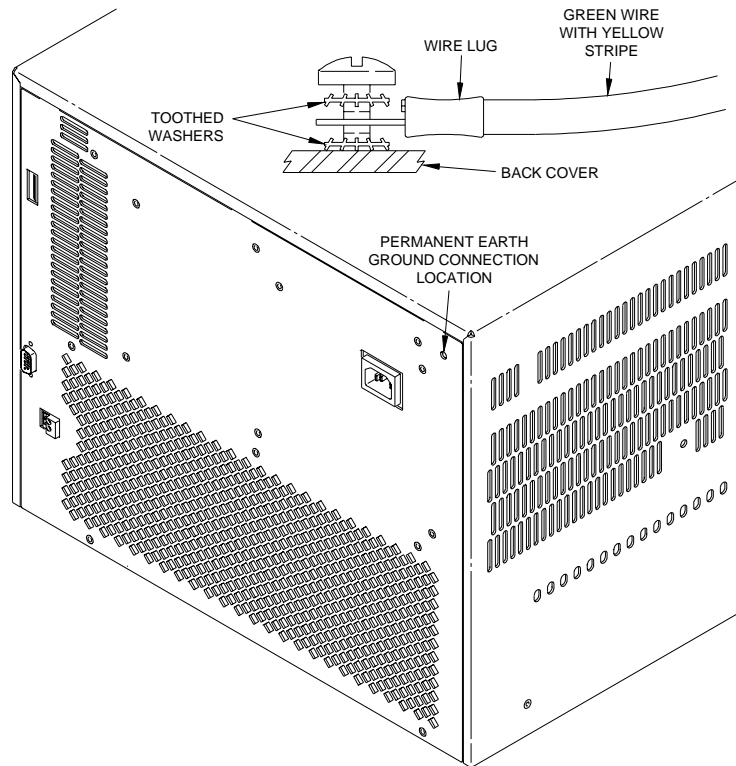

Figure 1-1. Connecting an HP E840xA Mainframe to a Permanent Earth Ground (HP E8404 shown, HP E8402 is similar)
1. Connect a 16 AWG (1.3 mm or larger) wire to the PEM nut shown in Figure 1-1. The wire must be green with a yellow stripe, or bare (no insulation). Use a m4 x 10 screw, grounding lug, and toothed washers (or toothed lug) as shown in the Figure.